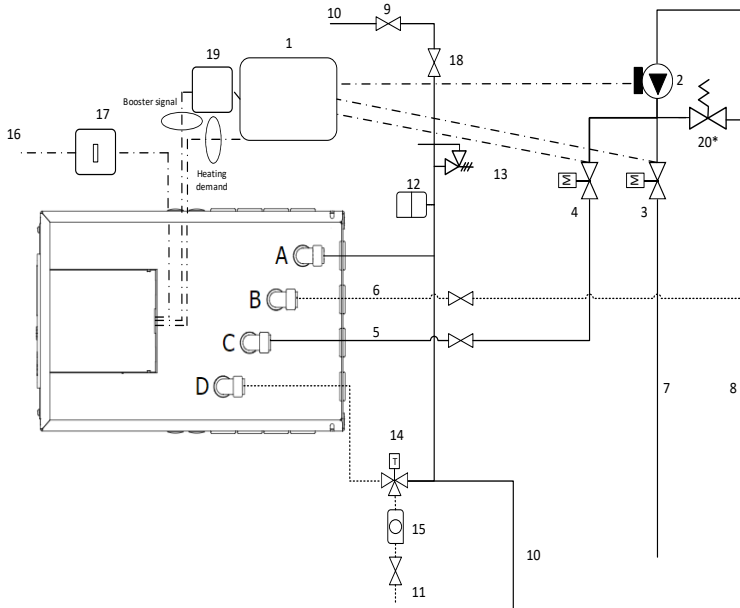

Figure 12.1: Example Wiring Option 1 Schematic (see Figure 3 for piping and electrical options available)
1. **Thermino hp-SG option 1:** Samsung Low Temperature Heat Pump (Fig. 12.1 & 12.2)
- Run and connect 3 Core mains power supply cable (16A minimum, minimum 2.5mm² CSA) from the double-pole isolating switch to the Heat Battery controller (Figures 12.1 and 12.2).